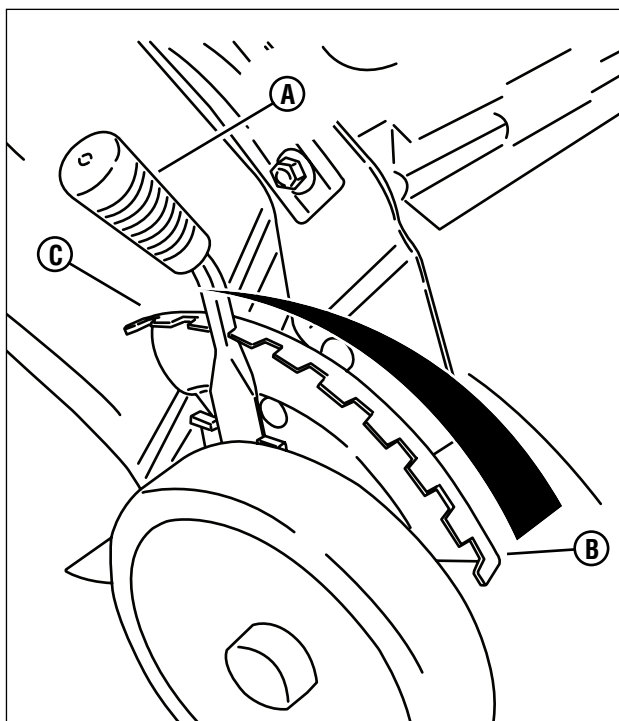
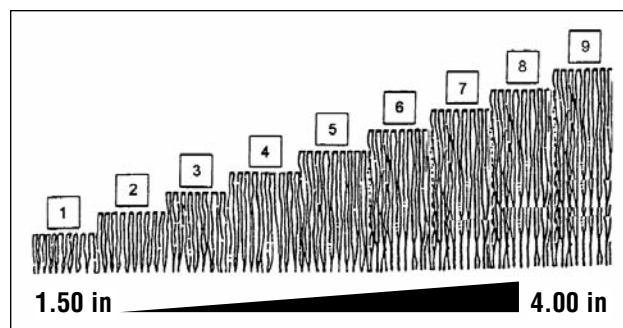

Figure 6: Adjusting cutting height
Figure 7: Cutting height settings (approximate)
1. Pull the height adjusting lever (**A**, **Figure 6**) outward, and move to the desired cutting height. The highest cutting position is Notch 9 (**B**; also see **Figure 7**). The lowest cutting position is Notch 1 (**C**).